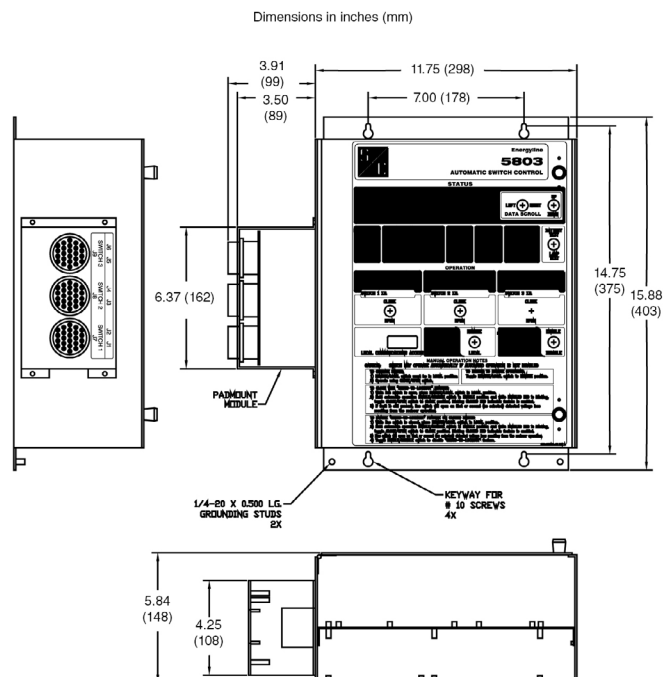

Figure 9. Switch control chassis mounted in pad-mounted gear.
2. Position the switch control so the four studs align with the four holes in the mounting flanges. See Figure 9.